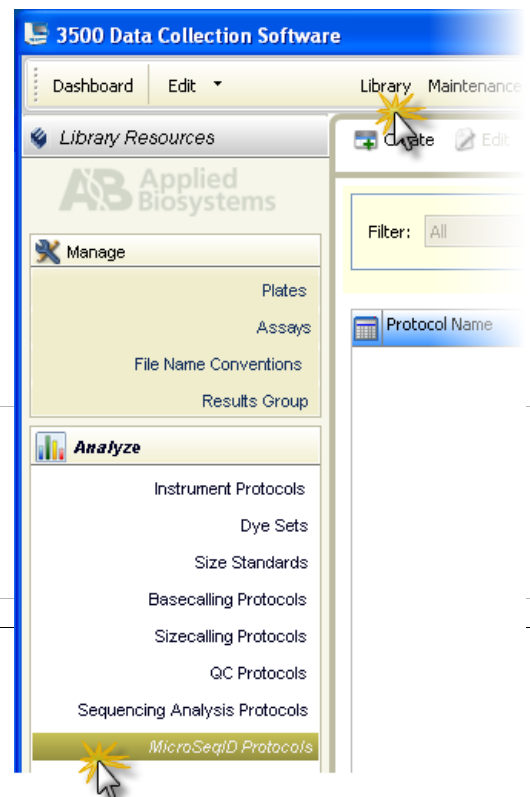

Figure 31 Create New MicroSeq® ID Protocol
3. In the Create New MicroSeq® ID Protocol dialog box (Figure 31 on page 192), specify settings (see Table 19 on page 192).